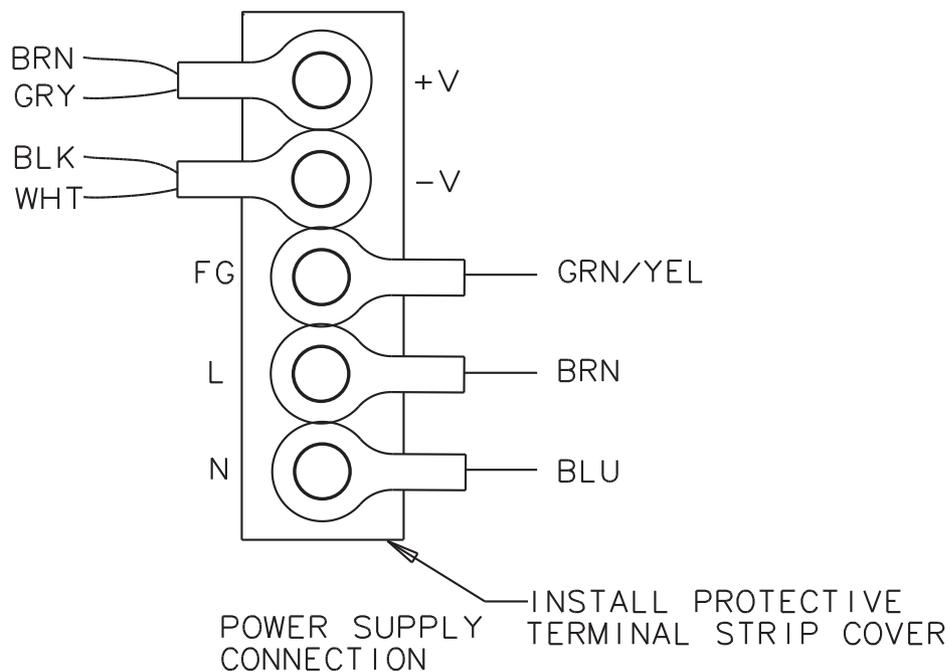

Figure 6-3. Power Supply Cable Connection
8. To replace the power supply, reverse the order of the removal procedure. Ensure that the power supply cable is installed per Figure 6-3, “Power Supply Cable Connection” on page 6-5.